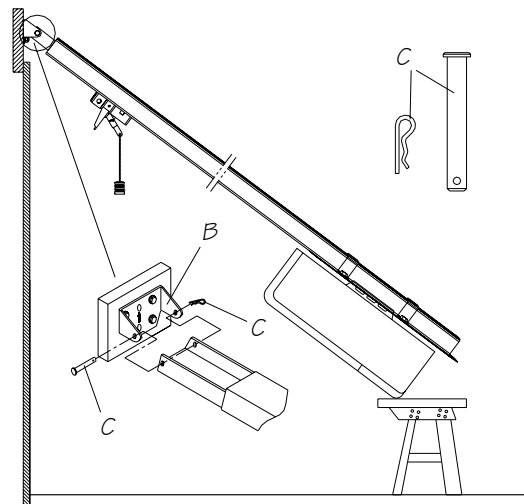

Fig 9
Install the front wall bracket (B) on the lintel above the door. The centerline of front bracket should coincide with the lintel center line (Fig 9). The centerline of the two horizontal installation holes must not be lower than the highest point of garage door when operating.
Lift the front end of the rail (Fig 9) and attach to the front wall bracket (B) using the bolt and split pins (C).